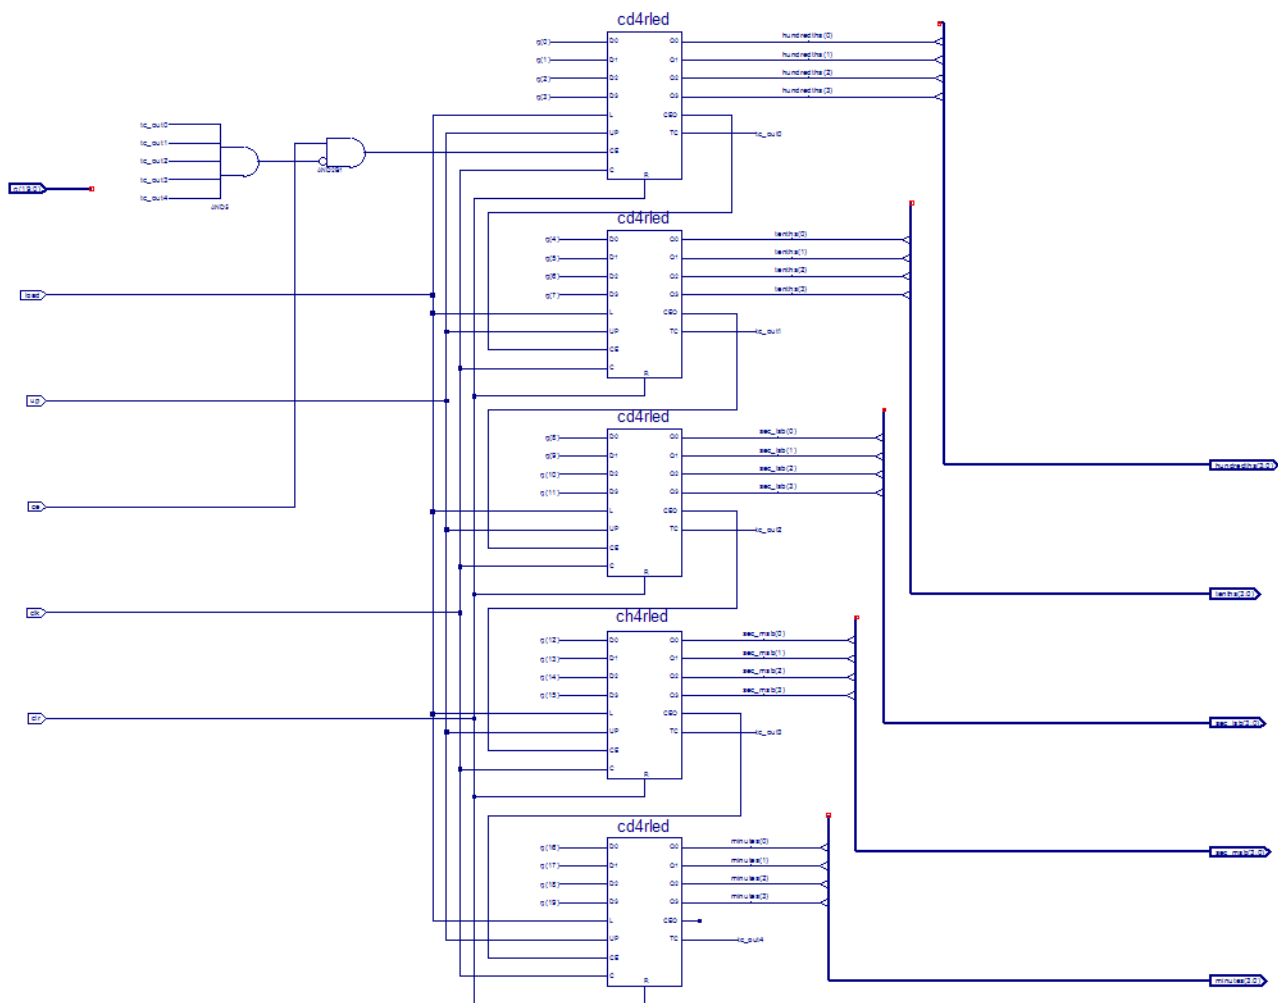

Figure 4-13: Completed time_cnt Schematic
8. Compare your time_cnt schematic with Figure 4-13 to ensure that all connections are made properly.